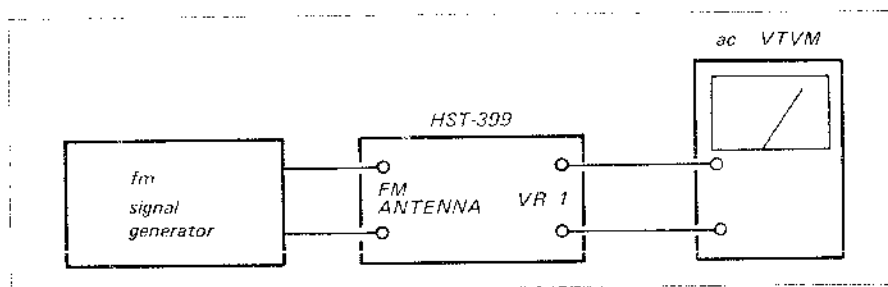

Fig. 3-9 Fm i-f strip alignment test setup, signal generator alignment
1. With the equipment connected as shown in Fig. 3-9, set the signal generator's controls as follows.